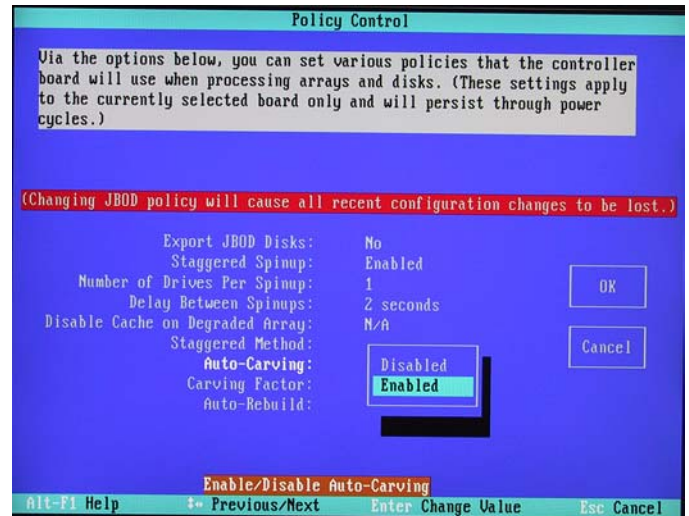

Figure 6-4
- 4) Enable the **Auto-Carving** feature and verify that the **Auto-Carving Factor** is set to 2048 (Figures 6-4 and 6-5).